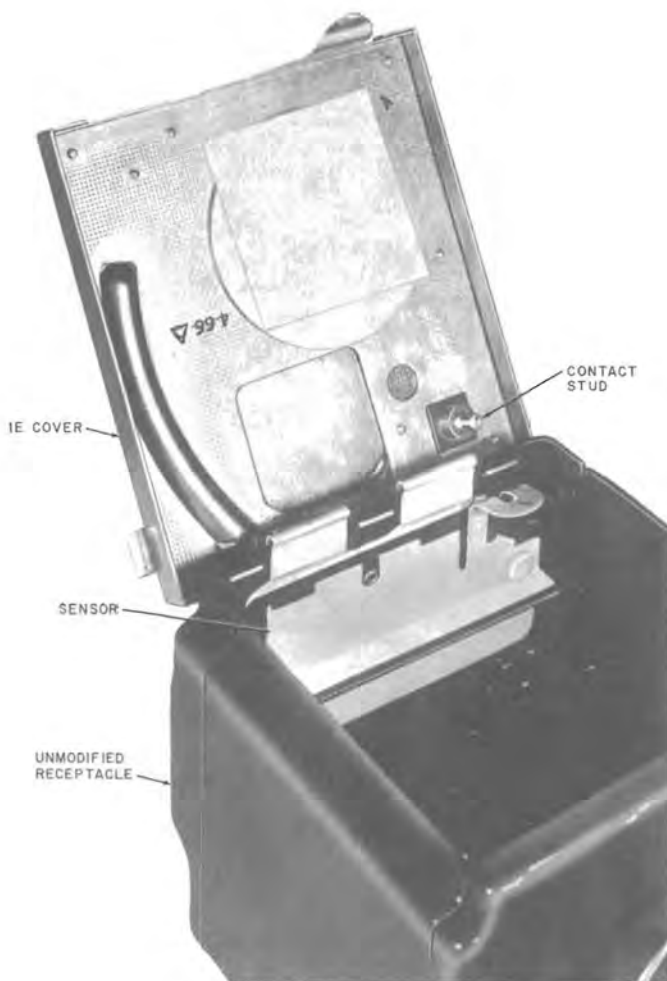

Fig. 5—Modified Coin Box
- 3.06 Replace existing coin box with a modified coin box (Fig. 5).